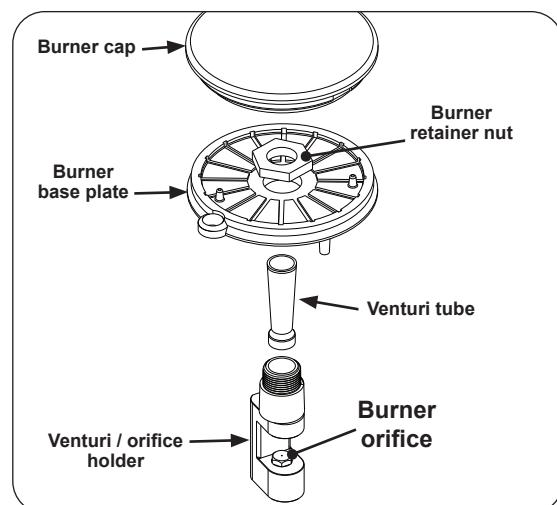

Fig. 31-1 Burner details
2. Remove the retainer nut using an adjustable wrench (see Fig. 31-1).
3. Remove the burner base plate and the venturi tube (see Fig. 31-1).
4. Carefully lift out the entire sideburner body from the enclosure and carefully set it on its side to access the venturi/orifice holder. See Fig. 31-1.